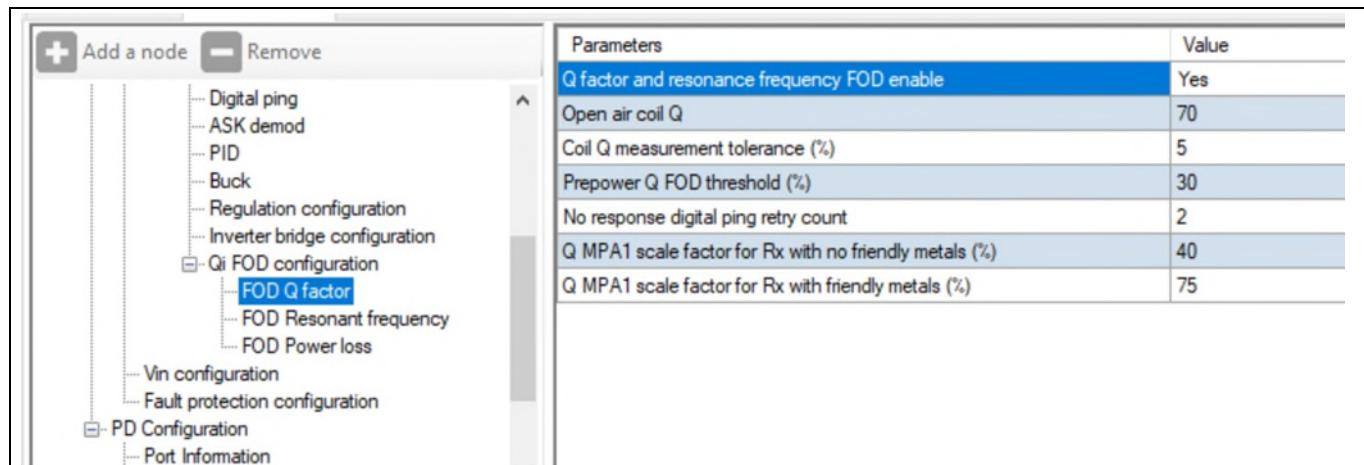

Figure 16 View of Q factor settings configuration tool
3. Record the high scaling factor from “QF Scaling Factor Calc” and update the Wireless Charging Configuration Utility parameters in the respective field as shown in Figure 16. See section 3.4 for more details.